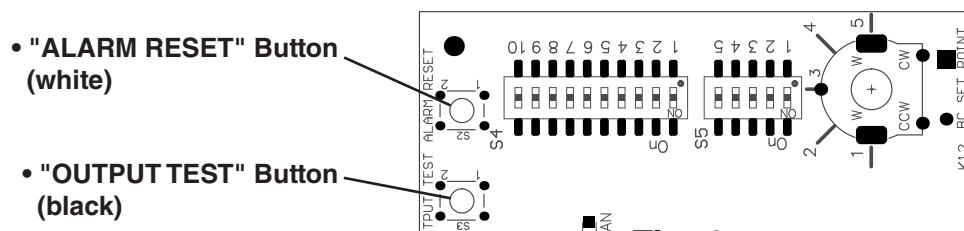

Fig. 1
- 3) The "OUTPUT TEST" button provides a relay sequence test. Make sure the control switch is in the "ON" position and the mode switch is in the "ICE" position, then press the "OUTPUT TEST" button. For the correct lighting sequence, see the table below. Note that the order of the LEDs from the outer edge of the control board is Comp, CV, WV, DV, PM, FM/HGV. Components cycle during the test. See Fig. 1.
See Fig. 1. Pressing the "OUTPUT TEST" button while CB is in alarm initiates an output test and locks out the "ALARM RESET" button. To reset the "ALARM RESET" button, turn the power power off and back on.